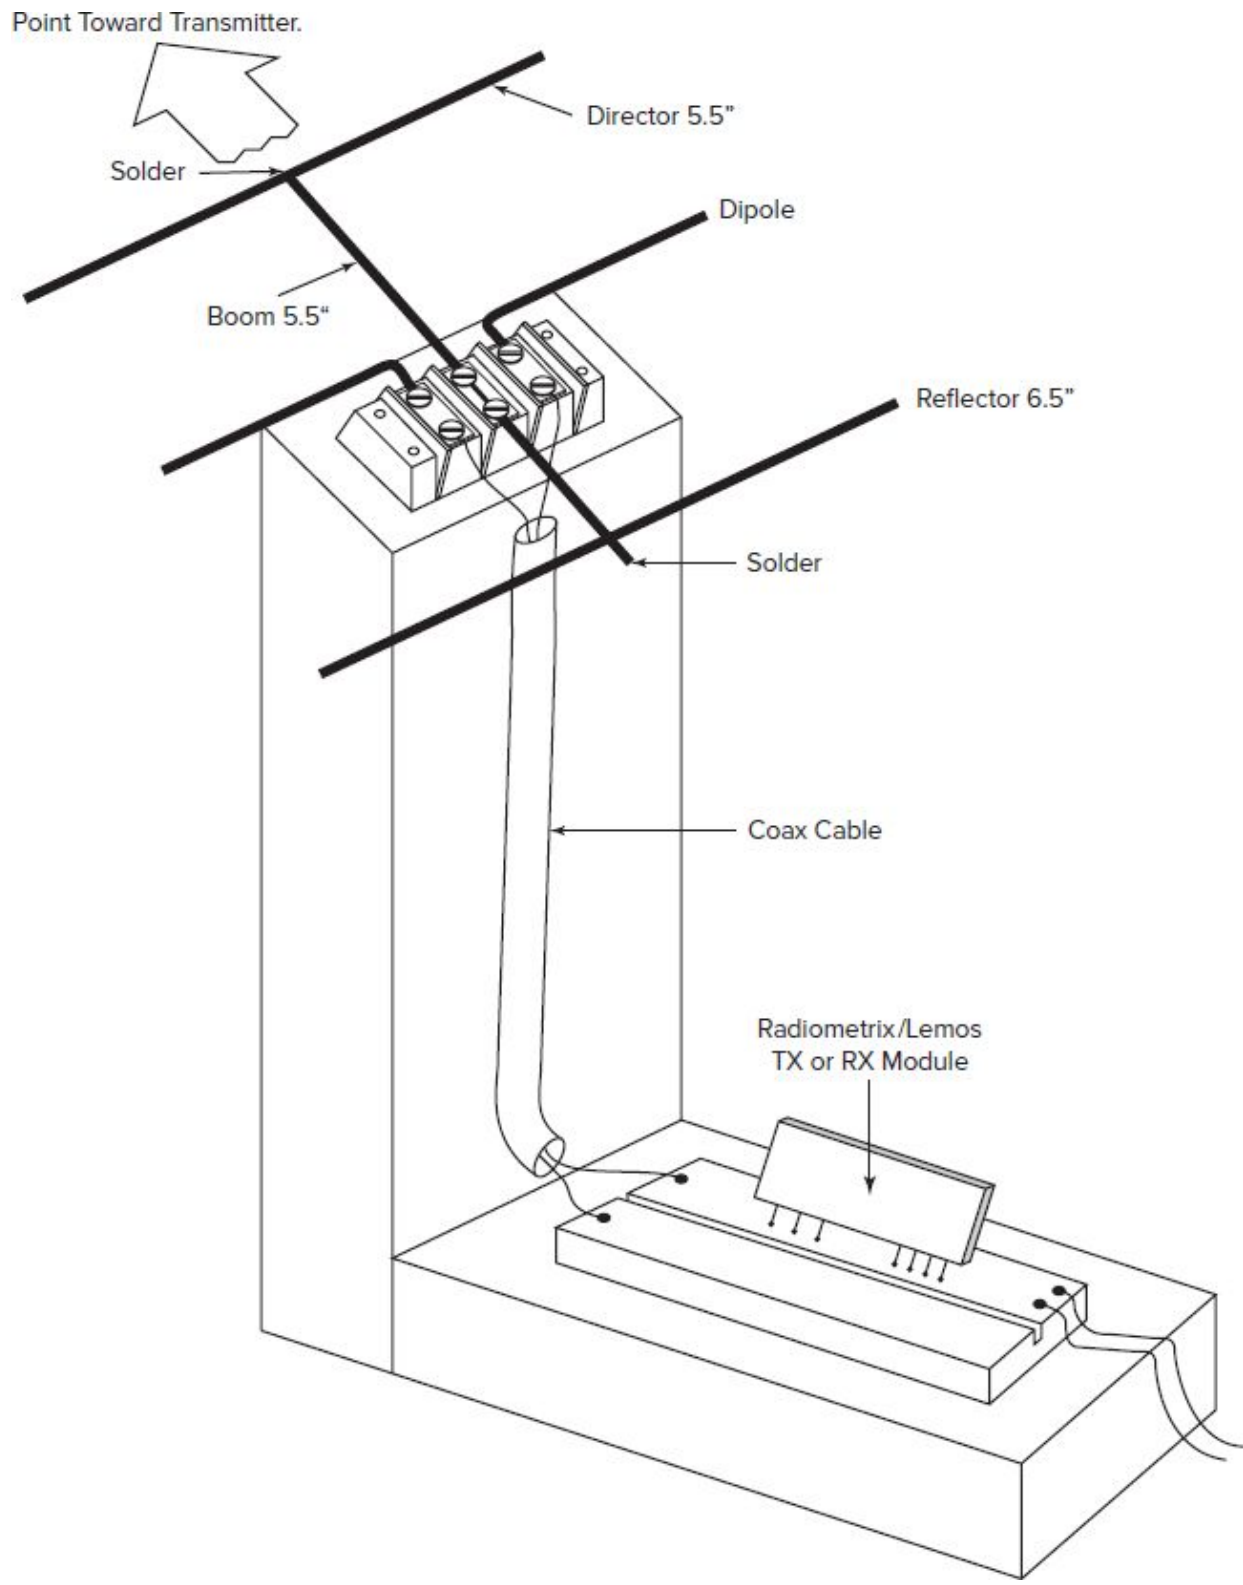

Fig. 16-9 Building the Yagi antenna.
20. Refer to Fig. 16-9. This shows a three-element Yagi with dipole driven element plus a reflector and a director parasitic elements. Build the remainder of the antenna by cutting the wire for the boom, reflector, and director to the dimensions as shown. Solder the director and reflector to the ends of the boom. Connect the boom to the center screws on the terminal block as shown. The dipole should be centered between the director and reflector. Be sure to maintain the dimensions as closely as possible.